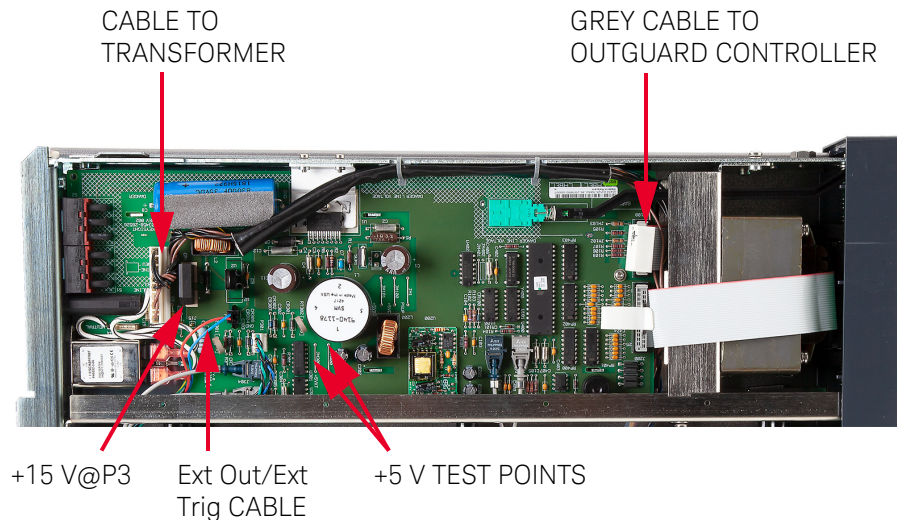

Figure 4-2 Outguard power supply
- 2 Refer to Figure 4-2 to locate the Ext Out/Ext Trig cable plugged in on the Outguard Power Supply (A6) assembly. Unplug the cable from socket P301.
- b Refer to Figure 4-2 to locate the 8-pin cable that connects the Outguard Power Supply (A6) assembly to the power transformer. Unplug the cable at the power supply assembly.
- 2** Refer to Figure 4-2. With the test digital multimeter, check for +5 V (± 0.25 V) at the test points shown in the figure.
- 6** Refer to Figure 4-2. Unplug the gray 20 pin cable connected to the Outguard Controller (A5) assembly.